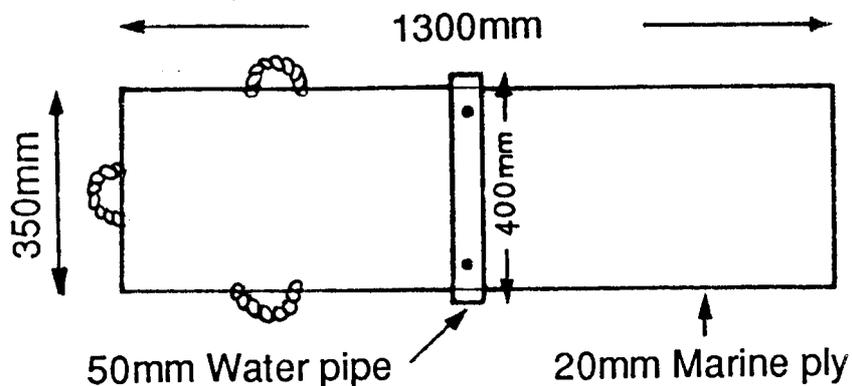

Figure 10:1—Recovery Board
- c. rope handles are attached through holes drilled at the head and sides of the board. (See Figure 10:1).